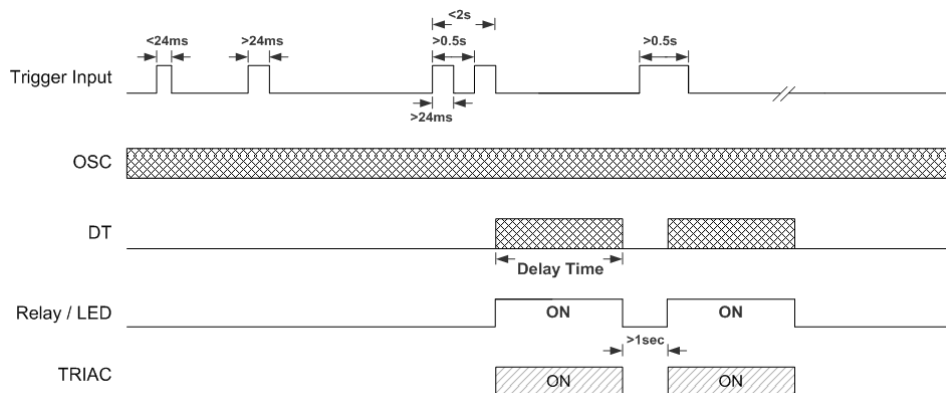

Fig.11 Trigger Timing
The effective input trigger signal width should be  $\geq 24\text{ms}$ . The output is valid either with (1) trigger signal width  $\geq 0.5$  seconds or (2) more than 2 effective trigger inputs within 2 seconds (separation of 2 triggers  $\geq 0.5\text{s}$ ). And the separation time between two TRIAC(RELAY) turn-on time must be more than 1 sec. The trigger timing is shown as Fig.11.